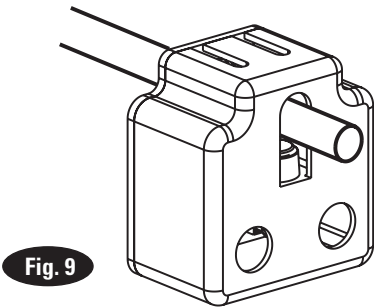

Fig. 9
10a. Overhead Assembly: Fig. 10: Adjust overhead to appropriate dimension. Install (4) M10-1.5 x 20mm HHCS & M10-1.5 Flanged Locknuts, do not tighten. Slide Switch Box Fig. 9 over switch bar ensuring knock out holes face the power unit column. Use (2) 1/4"-20NC x 3/4" lg. HHCS, 1/4" Flat Washer, and 1/4"-20NC Nuts to mount switch box to overhead, see Fig. 11.